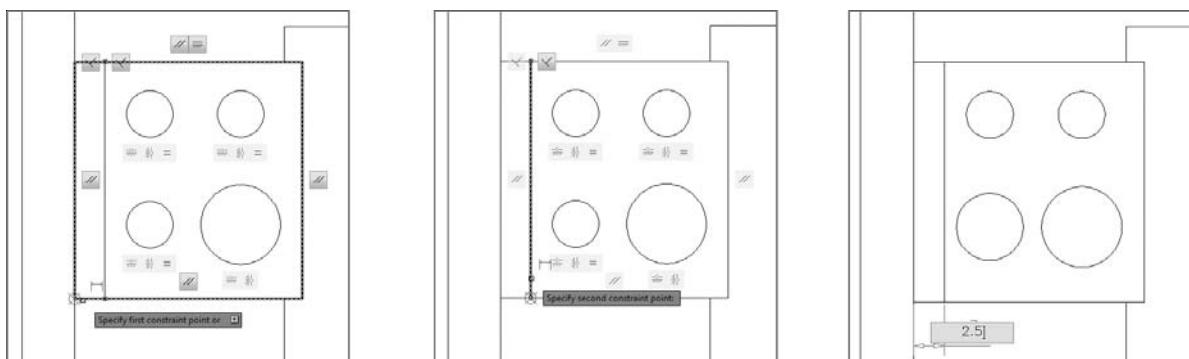

FIGURE 5.56 Applying a Linear dimensional constraint to the stove's control panel.
- d. Specify a location for the dimensional constraint, and then enter 2.5" (64 mm) as the value for d1 (see Figure 5.56).